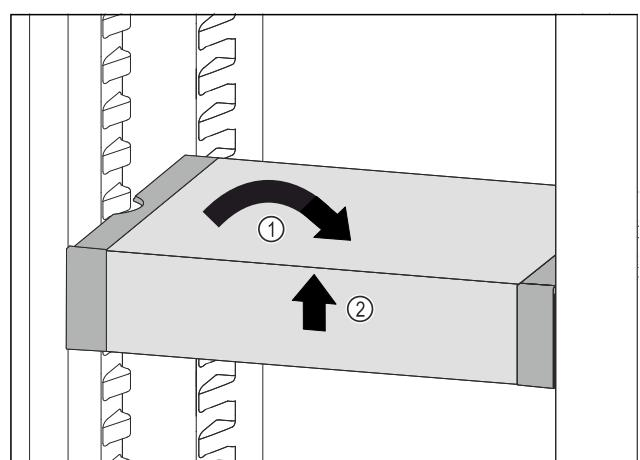

Fig. 136
► Set VarioSafe straight. Fig. 136 (1)
► Lift VarioSafe at the front. Fig. 136 (2)